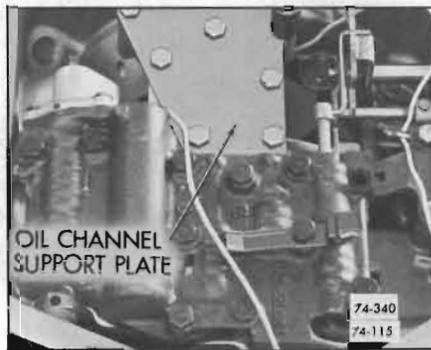

Figure 74-115
5. Remove oil channel support plate. See Figure 74-115.